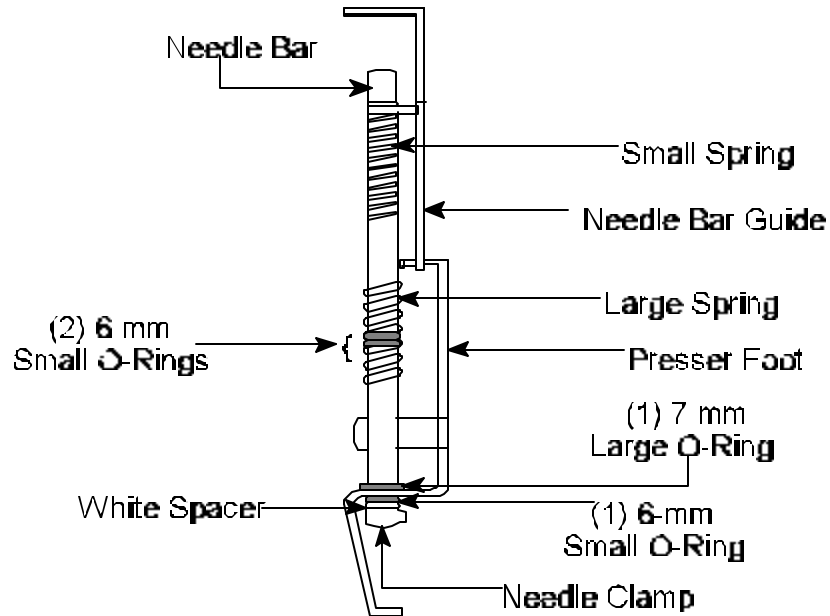

Figure 10
21. **Insert** Needle Clamp onto Needle Bar and align set screw with bottom hole then snug set screw. See Figure 10.